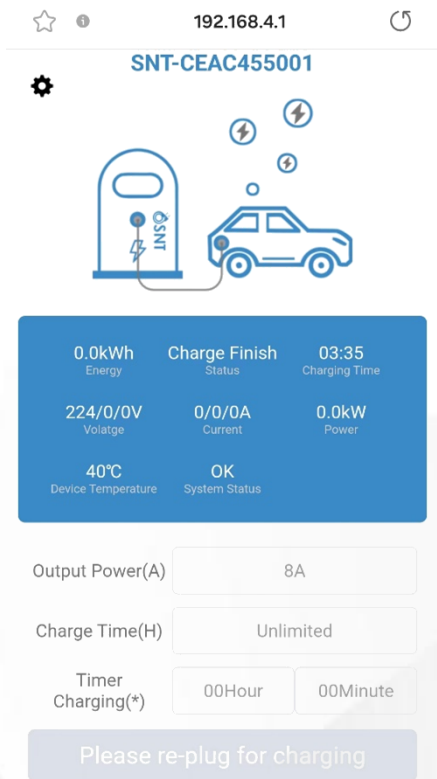
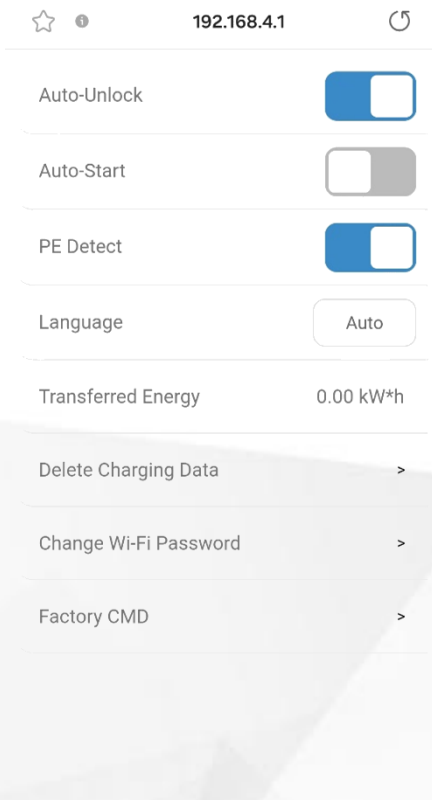

Fig.26
Fig.27
2. Enter the URL **192.168.4.1** in your mobile browser, as shown in Fig.26 and Fig.27